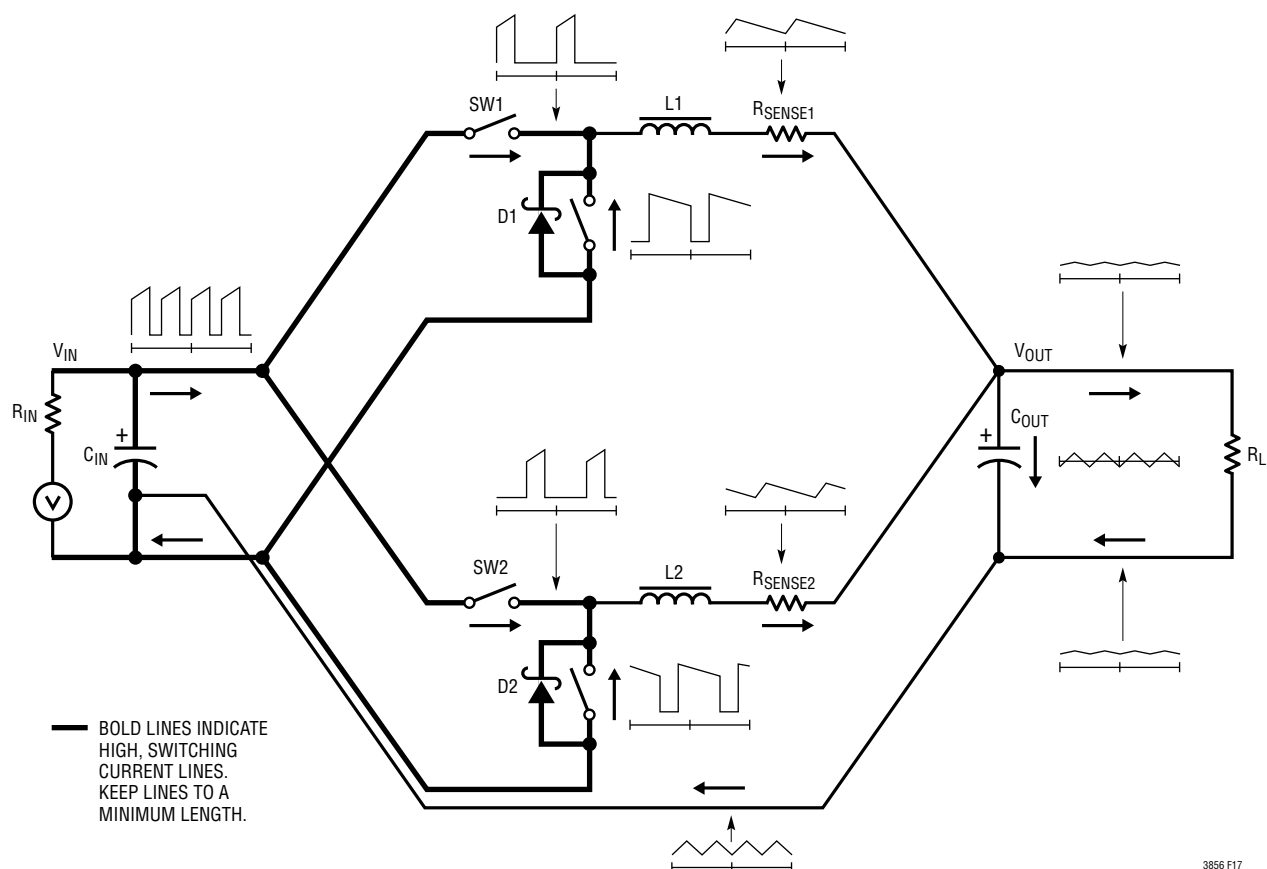

Figure 17. Instantaneous Current Path Flow in a Multiple Phase Switching Regulation
When laying out the printed circuit board, the following checklist should be used to ensure proper operation of the IC. These items are also illustrated graphically in the layout diagram of Figure 17. Check the following in the PC layout:
- The 47pF to 330pF ceramic capacitor between the I_{TH} pin and signal ground should be placed as close as possible to the IC. Figure 17 illustrates all branch currents in a 2-phase switching regulator. It becomes very clear after studying the current waveforms why it is critical to keep the high switching current paths to a small physical size. High electric and magnetic fields will radiate from